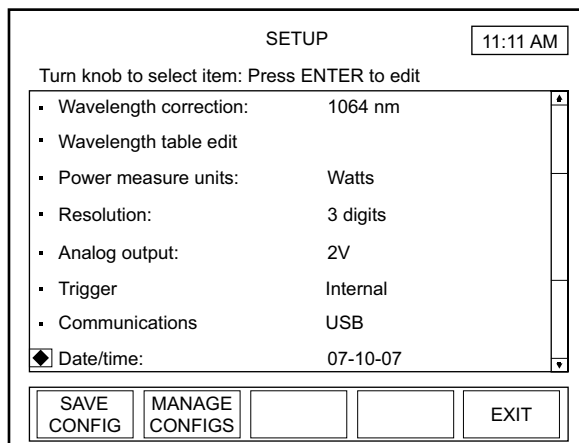

Figure 4-44. SETUP: Date/Time
1. On the main SETUP screen, turn the Selection knob to move the diamond indicator to Date/Time (Figure 4-44).